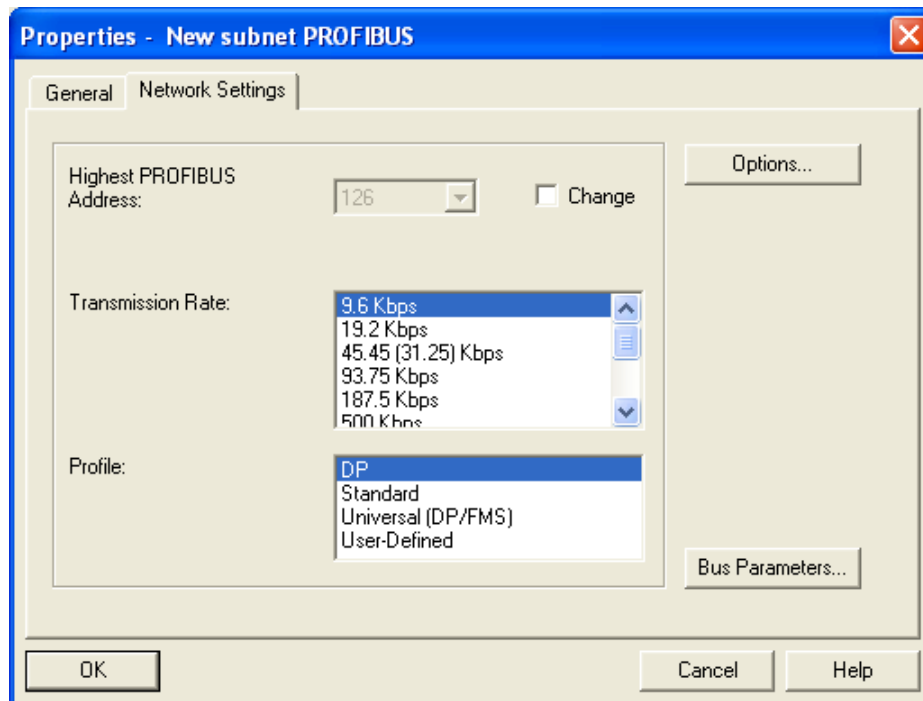

Figure 7-13
5. Select communication speed and bus type, then click “OK”. See Figure 7-13.